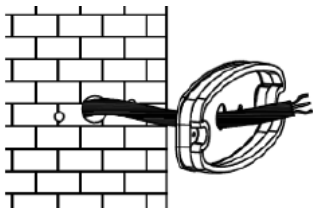

Fig. 2
- Feed the mains cable through the rubber grommet to retain IP rating, and secure the baseplate to the surface (see Fig. 2)